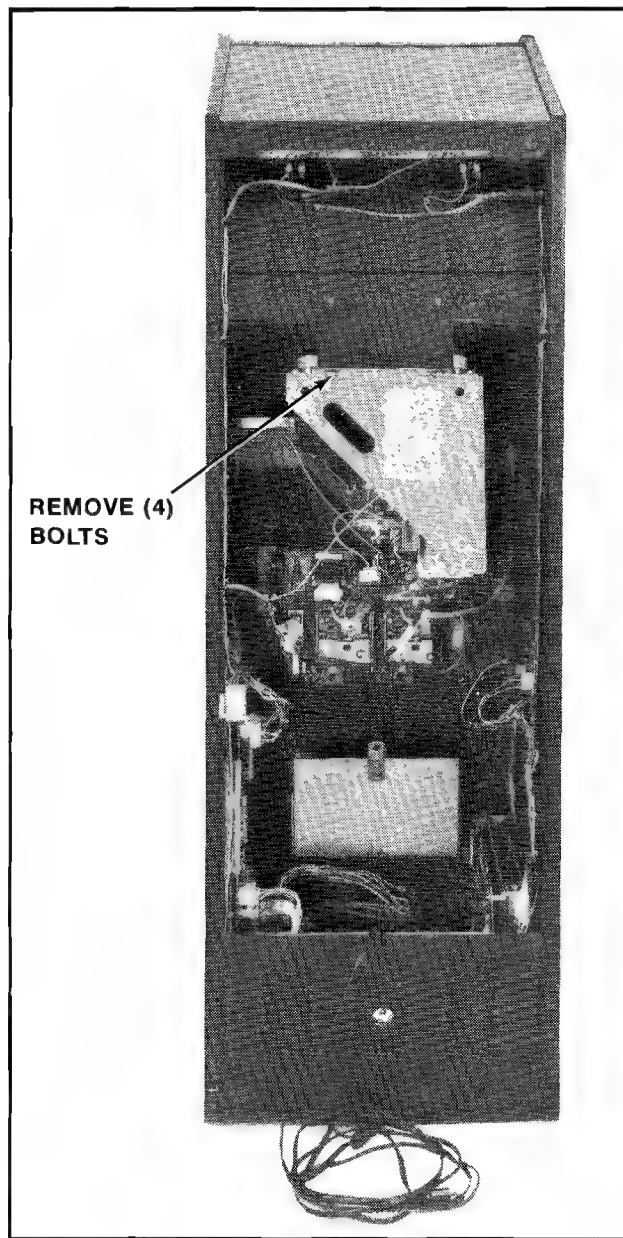

Figure 4-9 Removing the Monitor — Mini
- The monitor is removed by supporting it and pulling straight back as shown in Figure 4-9. (BE CAREFUL not to hit monitor on its rear support bracket.)